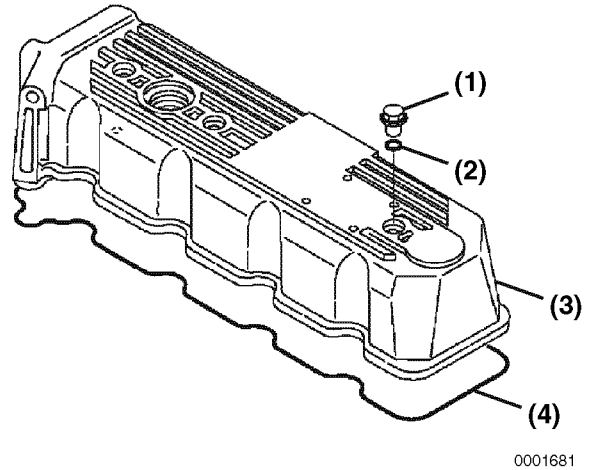

Figure 6-4
1. Remove the valve cover nuts (**Figure 6-4, (1)**).
2. Check the condition of the O-ring (**Figure 6-4, (2)**) on each valve cover nut. Replace the O-ring if necessary.
3. Remove the valve cover (**Figure 6-4, (3)**). Discard the valve cover gasket (**Figure 6-4, (4)**).